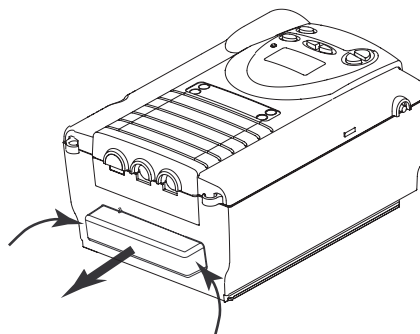

Figure 8-1 Removing the Filter Cover
2. Remove the filter cap by gently pressing in on the sides of the filter cover and pulling the cap out, away from the device. (Figure 8-1).